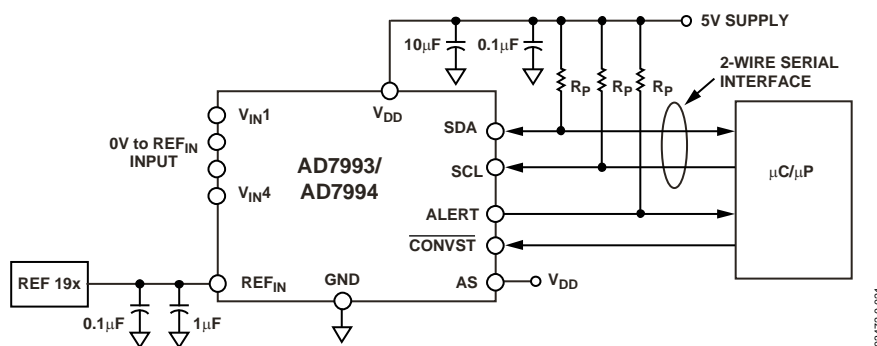

Figure 22. AD7993/AD7994 Typical Connection Diagram
Figure 22 shows the typical connection diagram for the AD7993/AD7994. In Figure 22 the address select pin (AS) is tied to V_{DD} ; however, AS can also be tied to AGND or left floating, allowing the user to select up to five AD7993/AD7994 devices on the same serial bus. An external reference must be applied to the AD7993/AD7994. This reference can be in the range of 1.2 V to V_{DD} . A precision reference like the REF 19x family, AD780, ADR03, or ADR381 can be used to supply the reference voltage to the ADC.